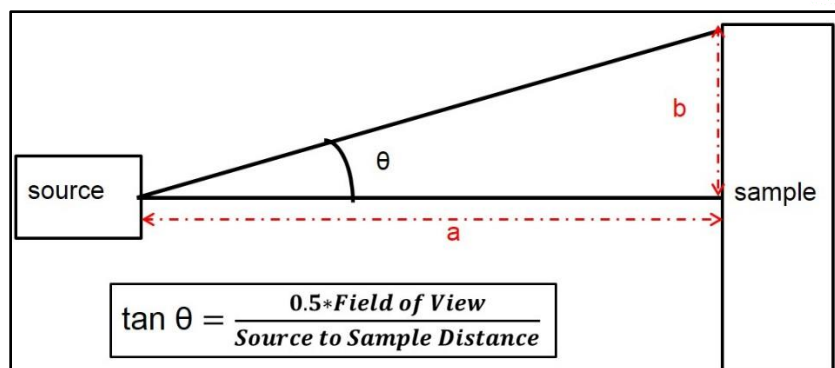

Figure 11 : Cone angle definition
The cone angle (CA) θ can be calculated as shown in Figure 11. If an advanced user desires to perform stitching at a particular angle, they can do so by changing the parameter “User Defined Cone Angle” to the desired value, and clicking on “Apply Cone Angle” to ensure the changes are saved in the recipe.